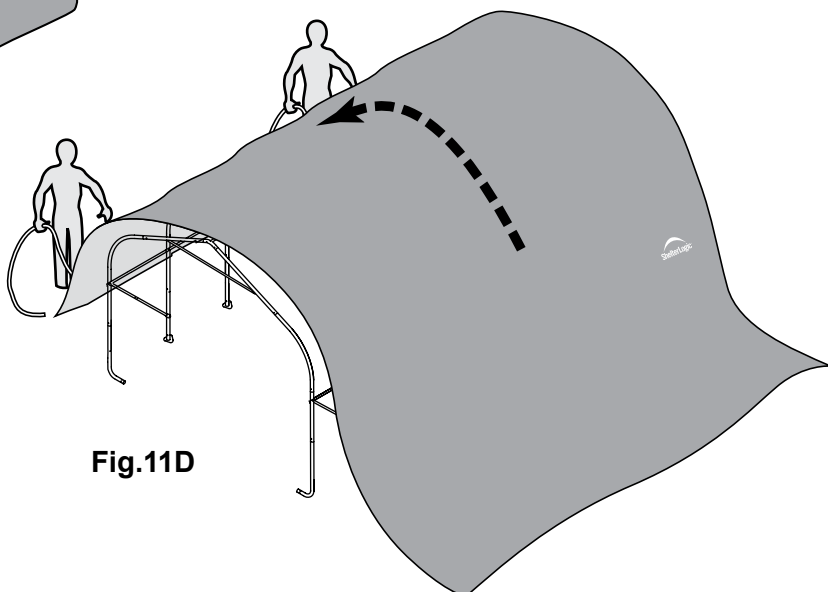

Fig.11D
D. Move to the other side of the frame and pull the cover over the frame with the rope. This may require two or more people. Fig. 11D.